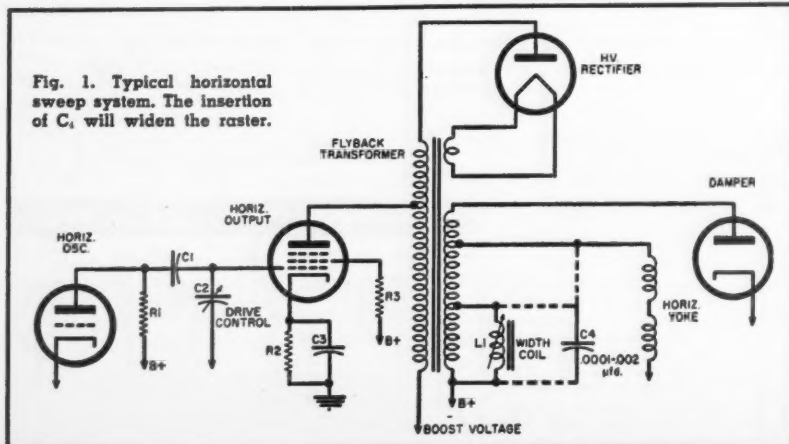

Fig. 1. Typical horizontal sweep system. The insertion of  $C_1$  will widen the raster.
(6) Use standard troubleshooting procedures to pinpoint the trouble.
**A—**The following gives the methods used to increase raster width (refer to Fig. 1); in general, use the opposite procedure to decrease the width:
(1) Use a width coil with a higher inductance rating than that of the original; a larger inductance has more impedance, decreasing the power that the coil absorbs from the remainder of the flyback circuit. Connect the width coil across those taps of the flyback transformer secondary which have the fewest turns of wire (indicated by a d.c. resistance reading). Shunt the coil (or any other two taps of the flyback transformer secondary, such as those across which the yoke is connected) with a capacitor ( $C_1$ ) which has a value of from .0001 to .002  $\mu$ f. (1000-volts); the higher the capacitance value, the greater the picture width. Remove the width coil entirely to obtain excessive width.
(2) Increase the drive voltage to the horizontal output tube by doing the following: Reset the horizontal drive control  $C_2$ . Increase the plate voltage to the horizontal oscillator tube by reducing the ohmic value of its plate load resistor,  $R_1$ , and/or feeding the boost (instead of "B+") voltage to its plate. Increase the capacitance value of the wave-shaping capacitor in the plate circuit (if there is one). Increase the value of the coupling capacitor,  $C_1$ , which connects the oscillator to the horizontal output tube.
(3) Reduce the horizontal output tube bias by decreasing or removing  $R_2$ , the cathode resistor (if one exists). Increase the horizontal output tube screen voltage by reducing the value of the screen grid resistor,  $R_3$ .
(4) Replace the low-voltage rectifier, high-voltage rectifier, and horizontal output tubes with ones which have a greater efficiency. Increase the "B+" voltage fed to the flyback system by reducing the value of the series dropping resistors in the "B+" line.